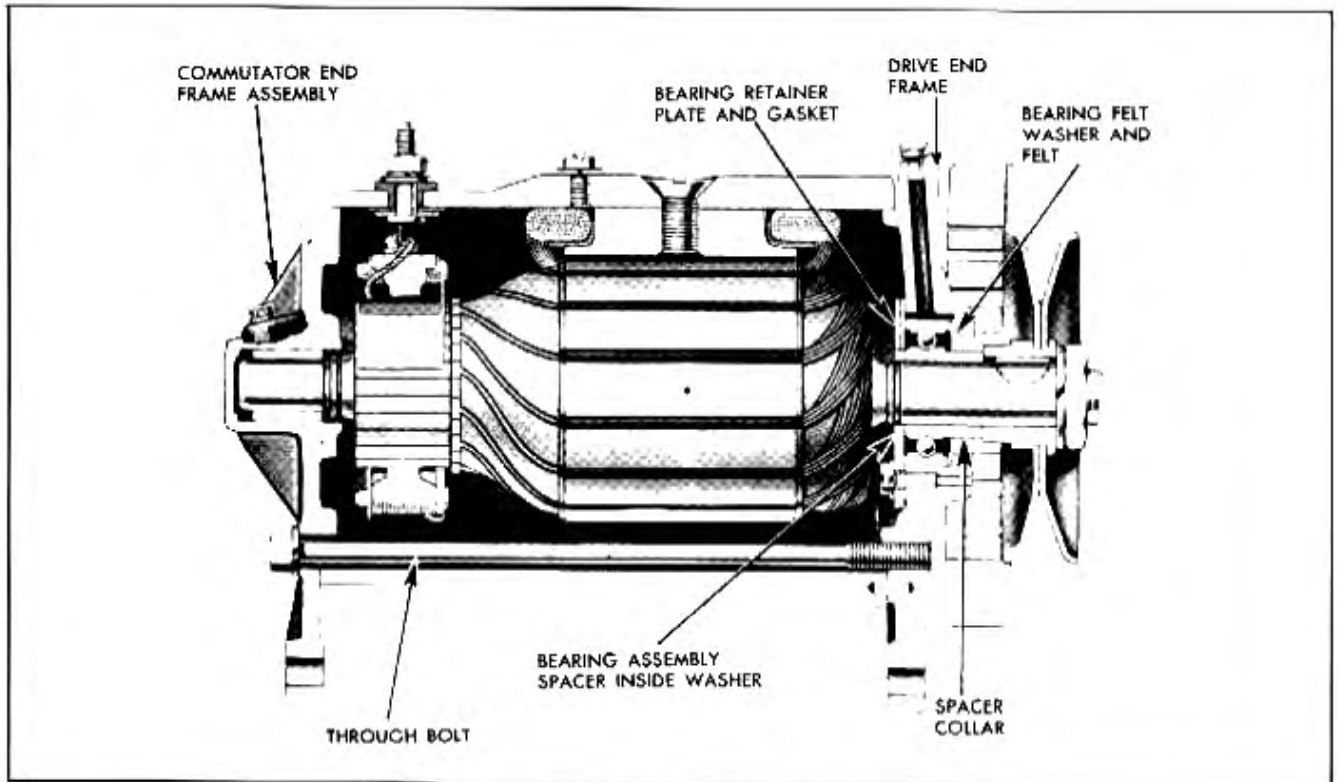

Fig. 12-19 Standard Generator—Cross Section
2. Remove two through bolts and remove commutator end frame assembly (Fig. 12-19).